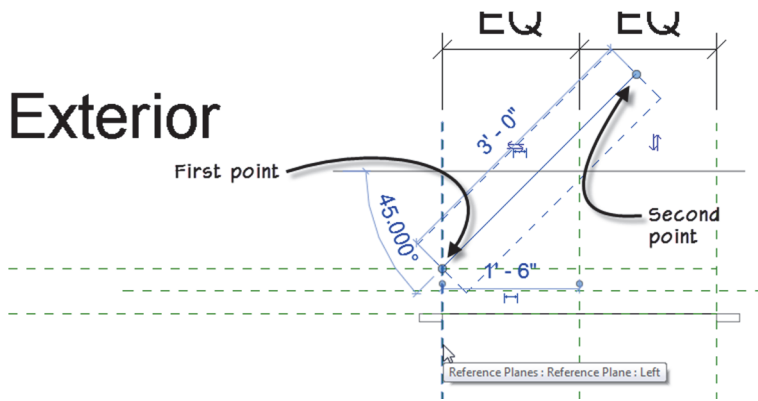

FIGURE 4.14
1. Draw a 45° reference line starting at the intersection of Left and Exterior reference planes. Make it **3'-0"** long (see Figure 4.14).